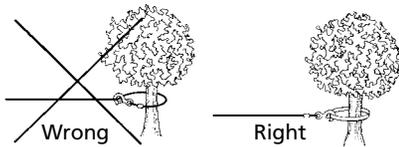

Figure 5
9. NEVER HOOK THE WIRE ROPE BACK ONTO ITSELF because you could damage the wire rope. Use a nylon sling (Figure 5).